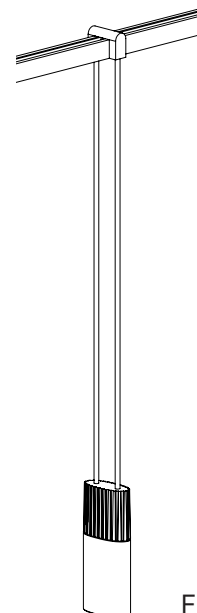

Fig. 3
2. Press down firmly on the top of the **Luminaire Hanger**, while pressing up on the bottom of the **Power Bar**, until the Luminaire Hanger clicks into place (Fig 3).